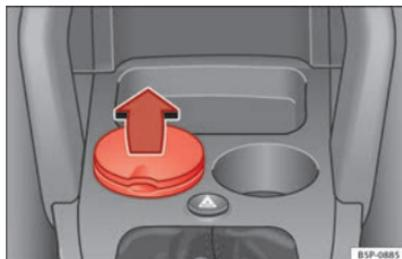

Fig. 109 Ashtray located in the front drink holder
- To open the ashtray, lift the cover ⇒ Fig. 109.